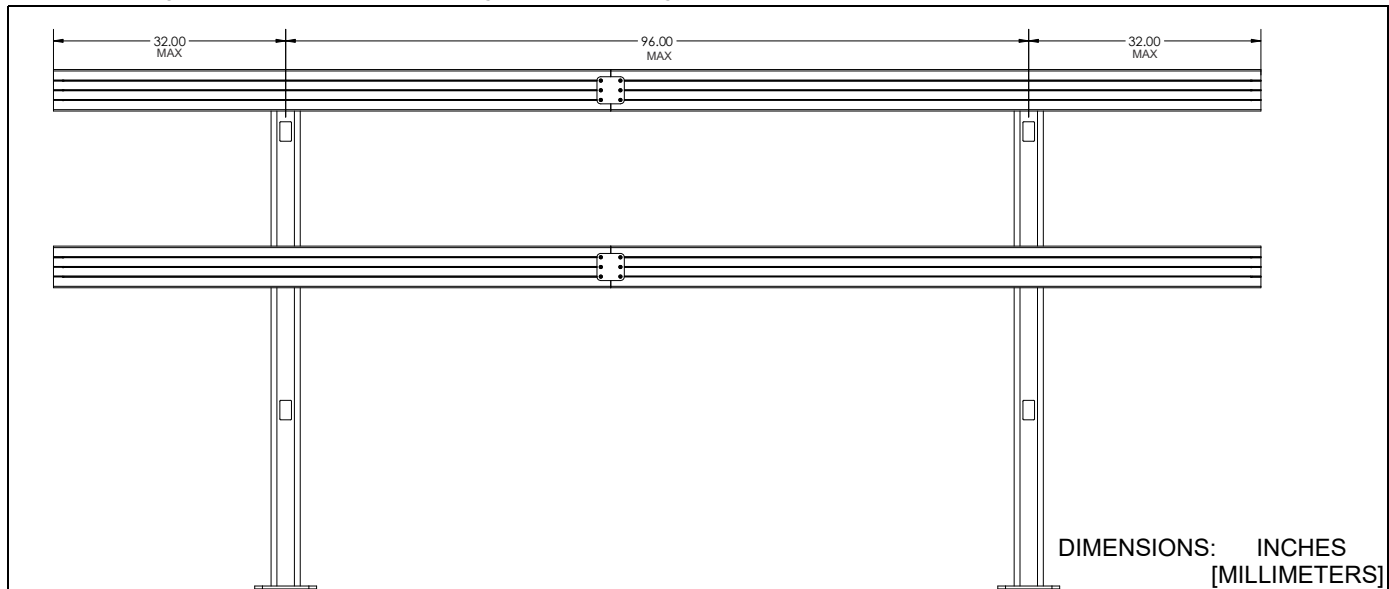

Figure 1
1. The **longest span between columns** (center to center) is **96 inches (8 feet)**. (See Figure 1)
2. The **longest overhang** (center to center to end of extrusion) is **32 inches**. (See Figure 1)
3. The **longest single extrusion with only two columns** is **120 inches**. (See Figure 1)
4. The **longest combined extrusion length with only two columns** is **156 inches (13 feet)**. (See Figure 1)
5. The **longest combined extrusion length with only three columns and 1 connector kit using standard extrusion lengths** is **228 inches (19 feet)**. (See Figure 1)